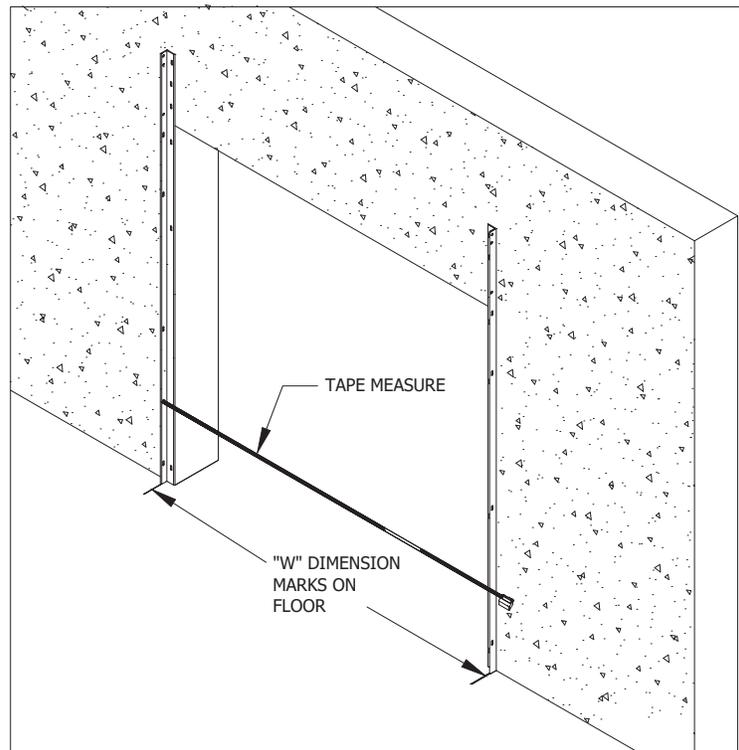

FIGURE 10
- d. Use a tape measure while attaching the second wall angle to maintain a consistent "W" dimension all the way to the top as shown in Figure 10.